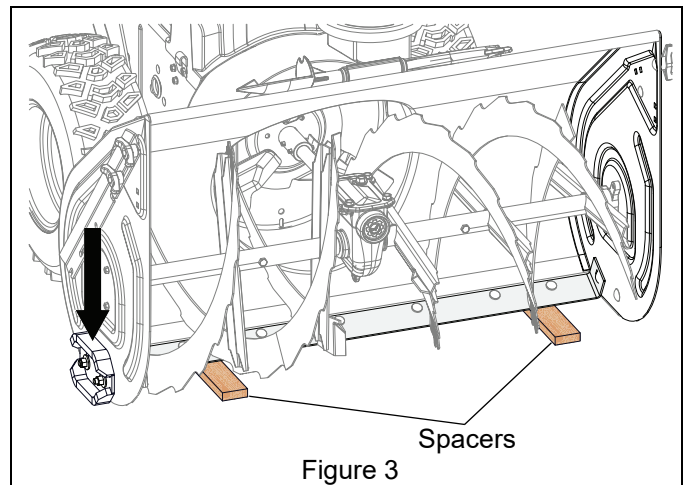

Figure 3
2. Place a spacer under each scraper blade end. See Figure 3.